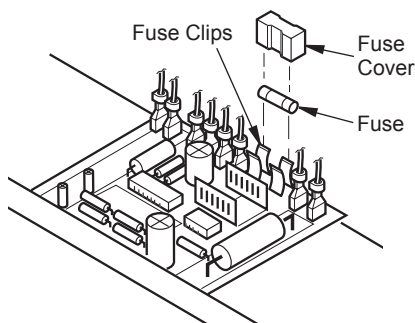

Figure 34 - Replacing Fuse
2. Remove side cover screws (4) using 5/16" nut-driver to expose ignition control assembly.
3. Remove fuse cover (see Figure 34).
4. Remove fuse from fuse clips (see Figure 34).
6. Replace fuse cover (see Figure 34).